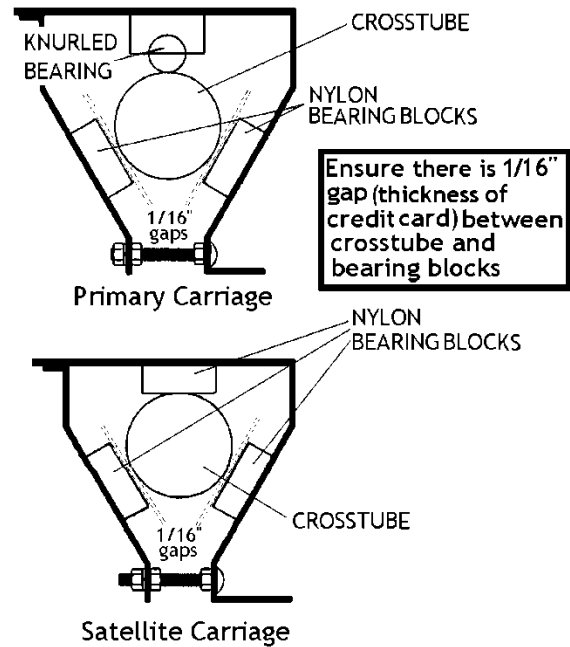

Fig. 8 – Side view of primary & satellite carriages
- 7 Ensure 1/16" gaps (approximately the thickness of a credit card) exist between crosstube and bearing blocks. See Fig. 8.